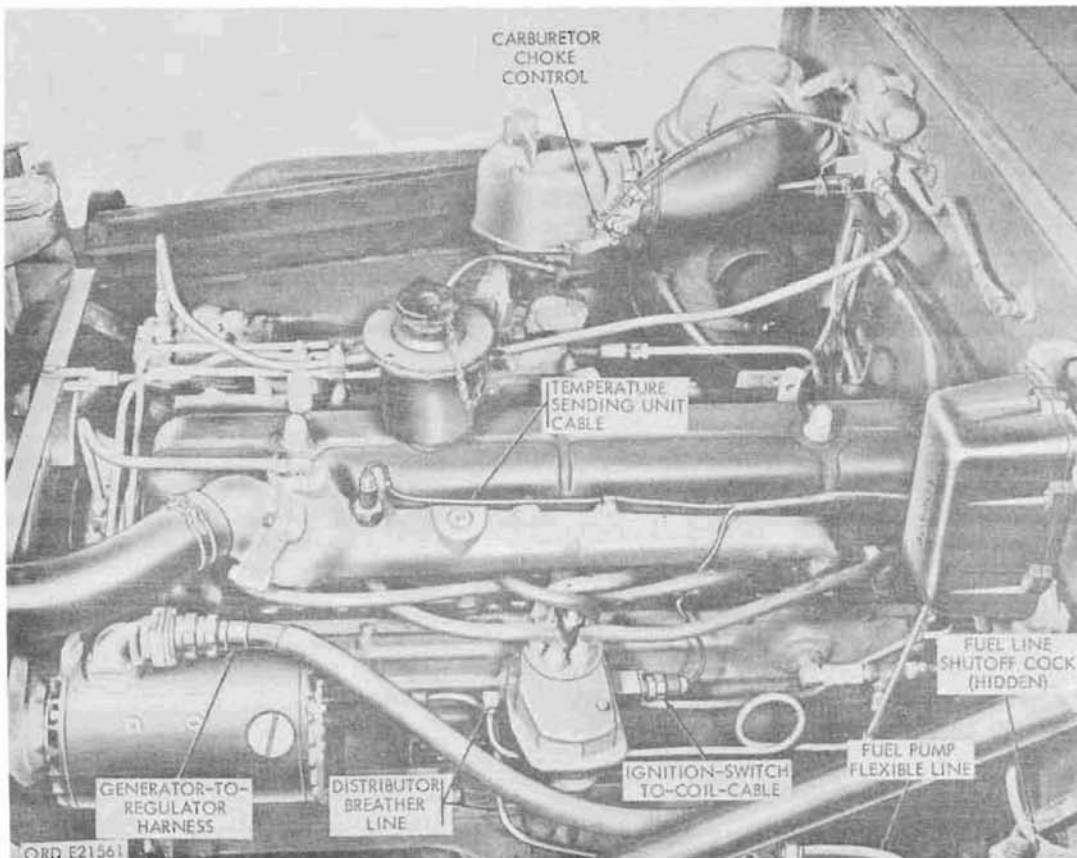

Figure 96. Disconnect points at left side of gasoline engine
b. Preliminary Instructions. Place the vehicle under suitable power plant lifting equipment. Arrange to have tools, lifting sling, stand, and supports available for use when needed. Block wheels to prevent the vehicle from moving. The disconnect points at the left and the right sides of the engine (figs. 96 and 97) in engine compartment are readily accessible when the hood top panel is raised
c. Disconnect Points at Left Side of Engine (Fig. 96).
- (1) Disconnect fuel pump flexible line. Turn fuel line shutoff valve (figs. 96 and 119) to closed position. Disconnect the line at the shutoff valve.
- (2) Disconnect engine ground strap. Unscrew the hex-head screw securing the
- (h) Disconnect carburetor choke control. Disconnect the choke control (fig. 96) at the choke lever (fig. 113) and choke lever bracket.